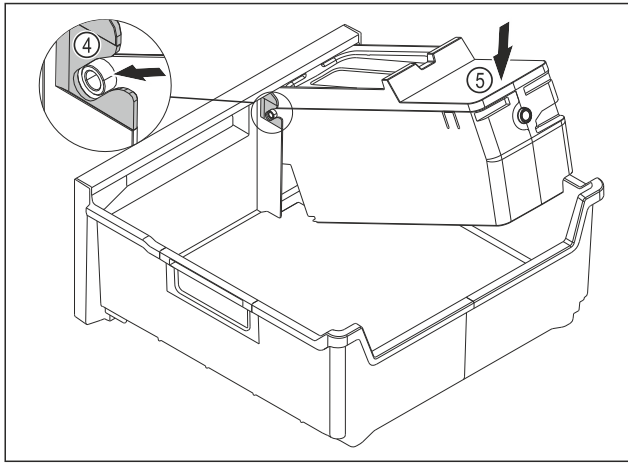

Fig. 86
- ▶ Installing the EasyTwist-Ice body: Push the axes for the EasyTwist-Ice body into the guides Fig. 86 (4).
- ▶ Press the EasyTwist-Ice body Fig. 86 (5) down at the back.